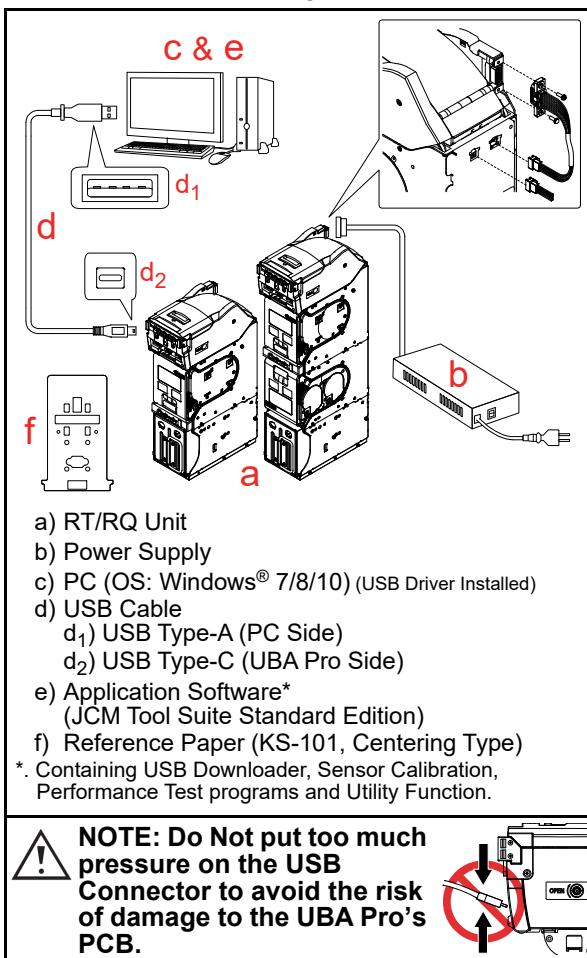

Figure 6-1 Tool and Harness Connections
Figure 6-1 illustrates and identifies the tools and equipment interconnects necessary to install and/or download the Application Software, USB driver and Software, to calibrate Sensors, and to perform the Performance Test using a PC.
Perform the following steps to install the “JCM Tool Suite Standard Edition” Application Software and USB Drivers (Refer to Figure 6-1 for the necessary Tool and Harness Connections ).
2. Connect the USB Cable to the Unit (Refer to Figure 6-1 for the Tool Requirements and Harness Connector locations).
4. Connect the RT/RQ Unit to the PC (Refer to Figure 6-1 for the Tool Requirements and Harness Connector locations).